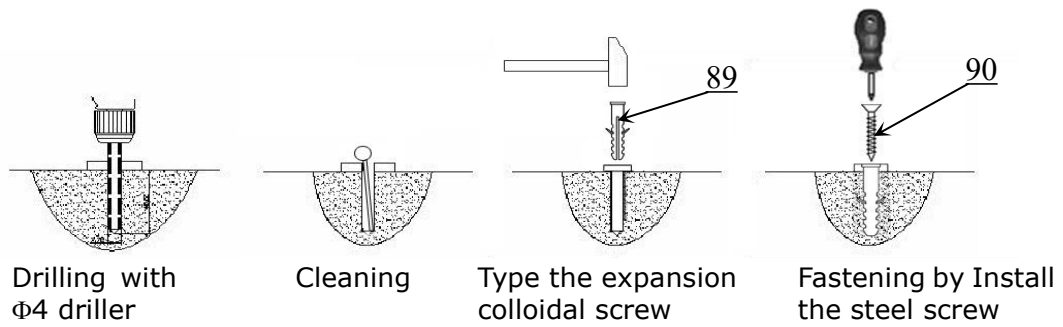

Fig. 26
2. Install the oil hose cover (See Fig. 26).